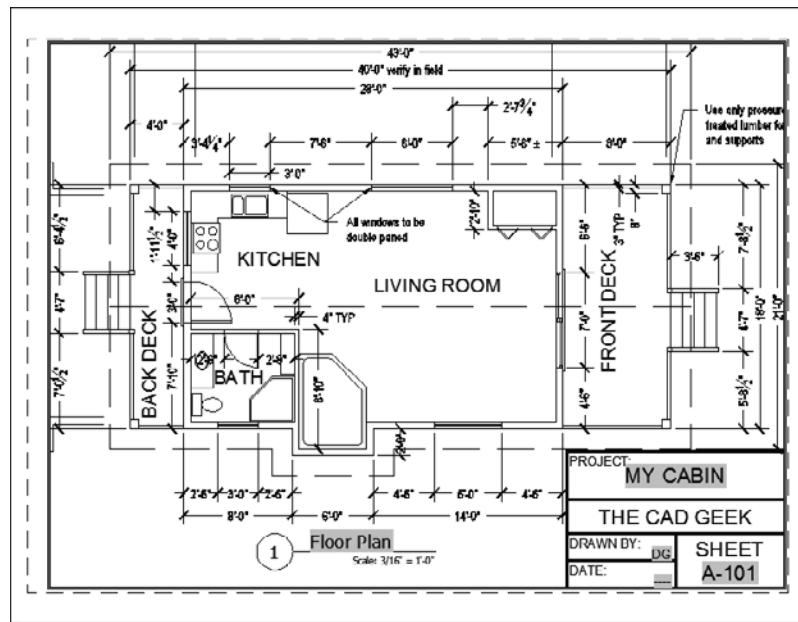

FIGURE 15.1 The A-100.dwg drawing showing the floor plan
1. Open A-100.dwg (see Figure 15.1). Click the A-101 layout to make it active, and ensure that you are in paper space.